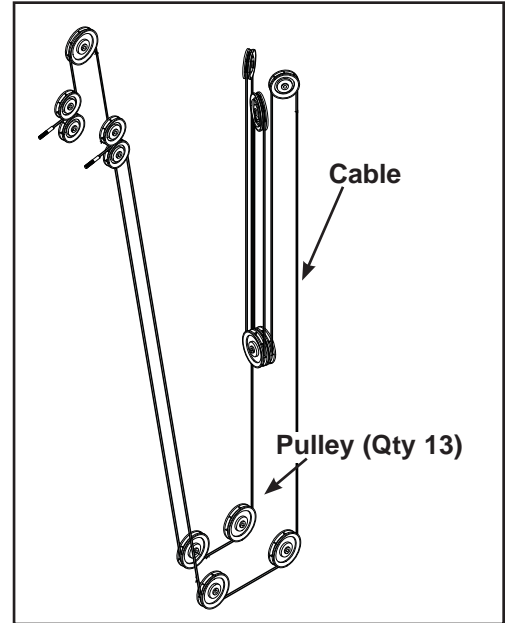

Figure 2
- A. Verify cable is routed through pulley brackets. **NOTE:** Verify cable is not twisted. See Figure 2.